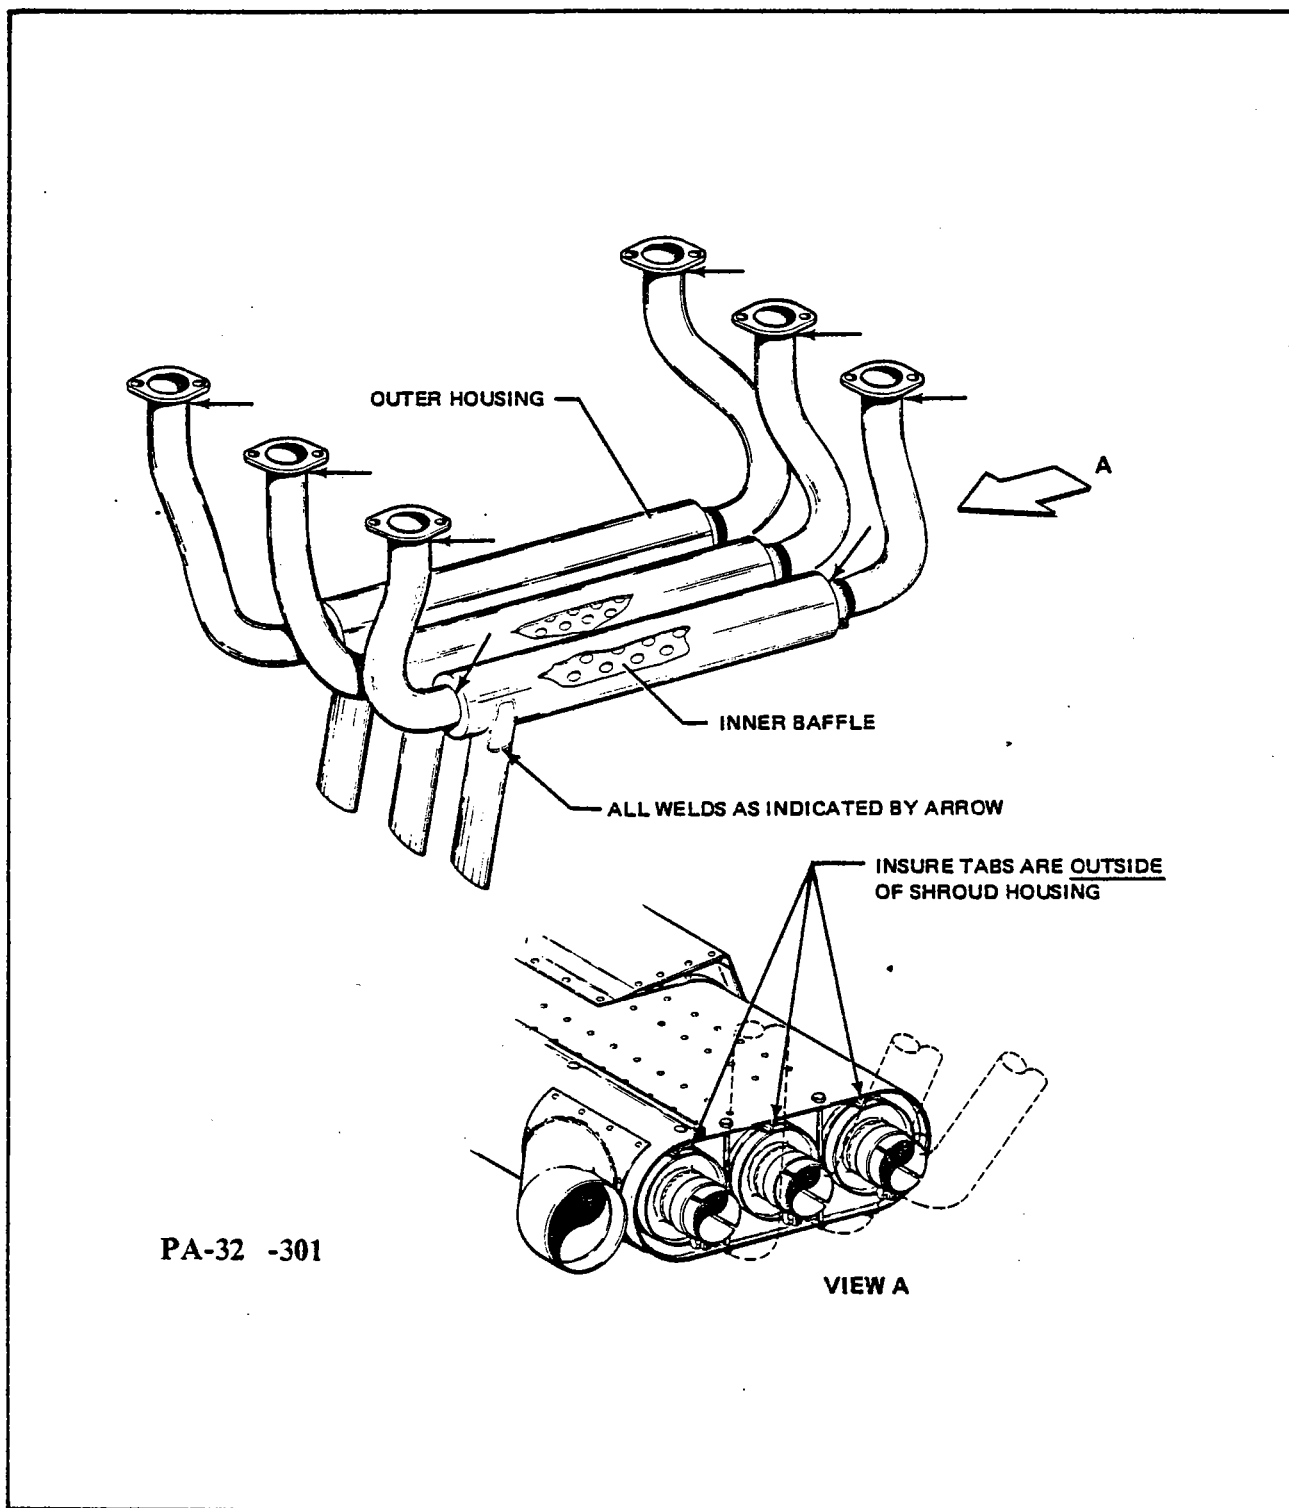

Figure 78-1. Exhaust System Inspection Points
INSPECTION OF EXHAUST SYSTEM. (Refer to Figure 78-1 for PA-32-301 installations.)
A. Check the left end of muffler and shroud assembly to determine if the shroud retaining tabs are totally visible on the outside of the shroud. (Refer to Figure 78-1.)